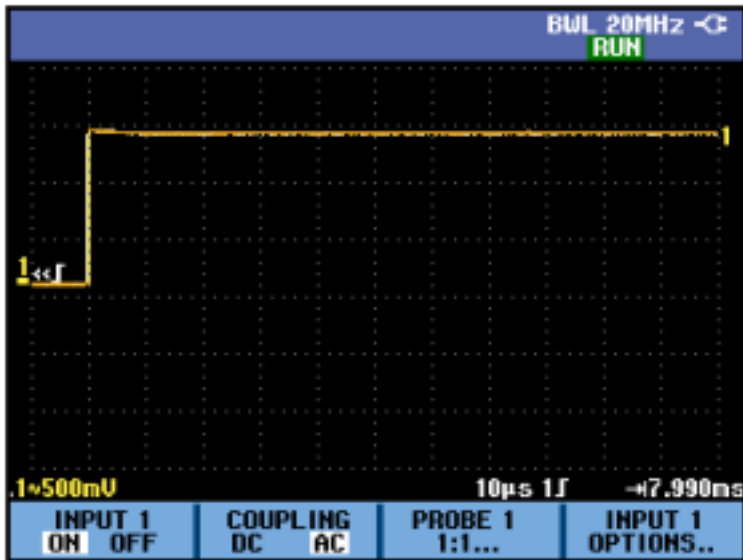

Figure 6: 8 ms time marker
- Position the trace to the right until the indicated trigger delay is 7.990 ms. (See Figure 6 on page 14.)